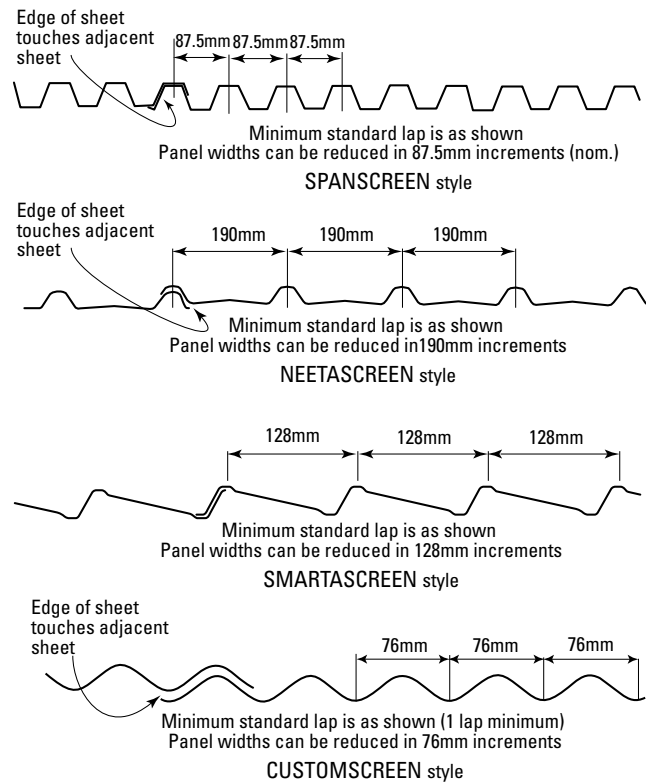
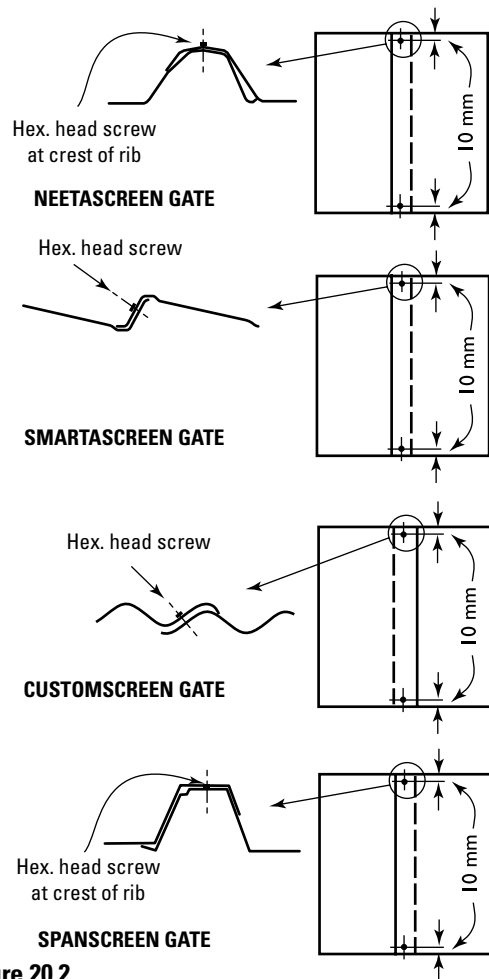

Figure 20.1
Figure 20.2
- 2) For extra-wide gates: overlap sheets to the desired width (Figure 20.1). Join the two sheets with hex. head screws (#10-16 x 16), through the overlaps, at both top and bottom edges (Figure 20.2).